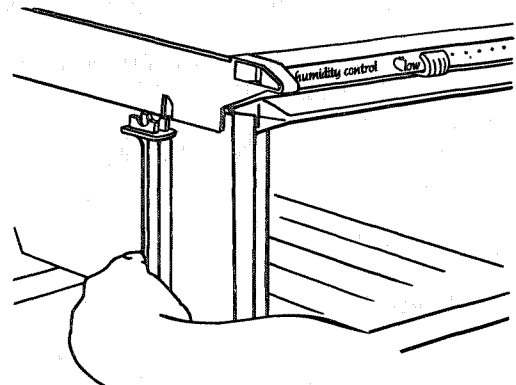

Figure 37
- k. Slide other crisper system to left\* and slide out. See Figure 37.